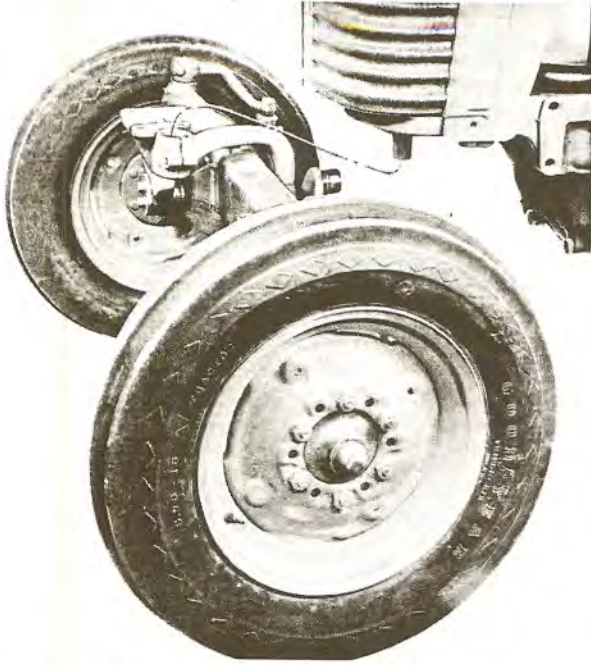

Fig. 5 — Removing Wide Front Axle Assembly
5. Front axle assembly by rolling the unit forward and out from tractor (a floor jack supporting the front axle center member facilitates easy handling when following this procedure). See Fig. 5.